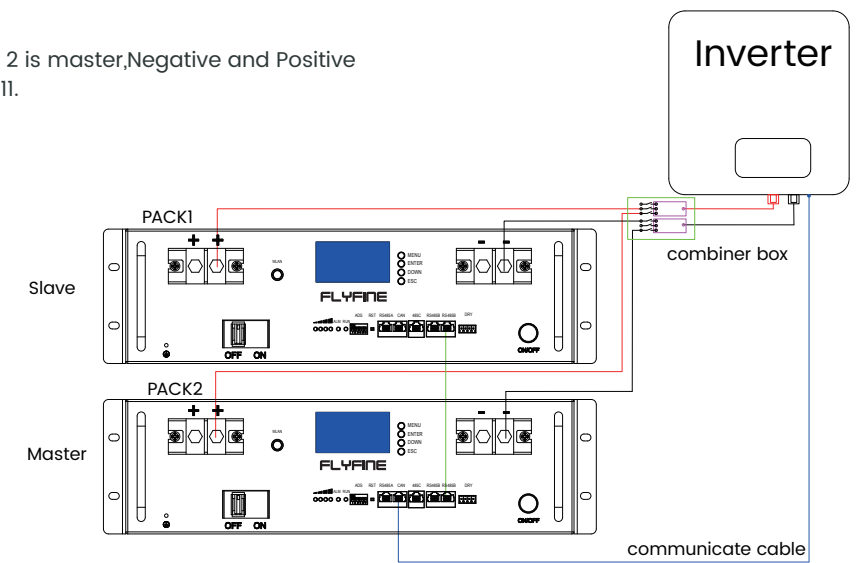

Figure 11
- Connect the wiring of the Pack as shown below, see figure 11 inverter need CAN BUS port / RS485 port. Please insert communication cable (RJ45) to CAN port or RS485A, RS485B only be used for battery packs parallel mode.
2 pack---1 Inverter. Pack 1 is slave ; pack 2 is master, Negative and Positive power cable has the same length. Figure 11.